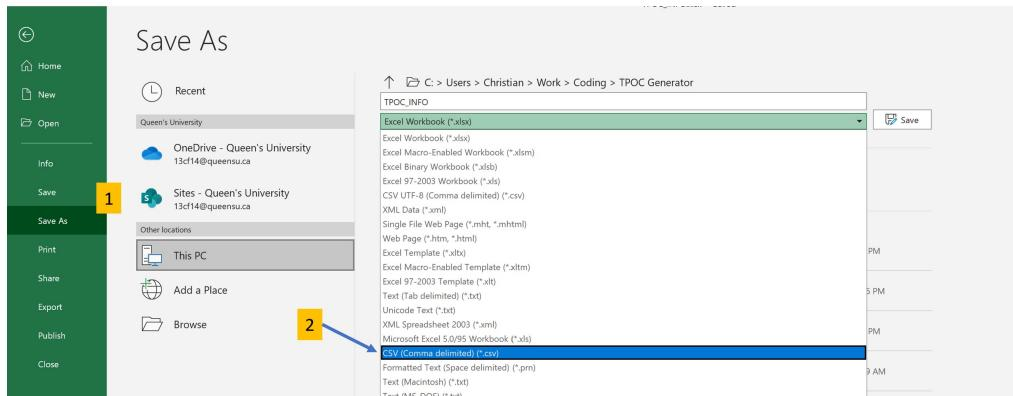

Figure 11: Converting Excel Sheet to CSV Format
2. Change the extension to CSV as shown in Figure 11